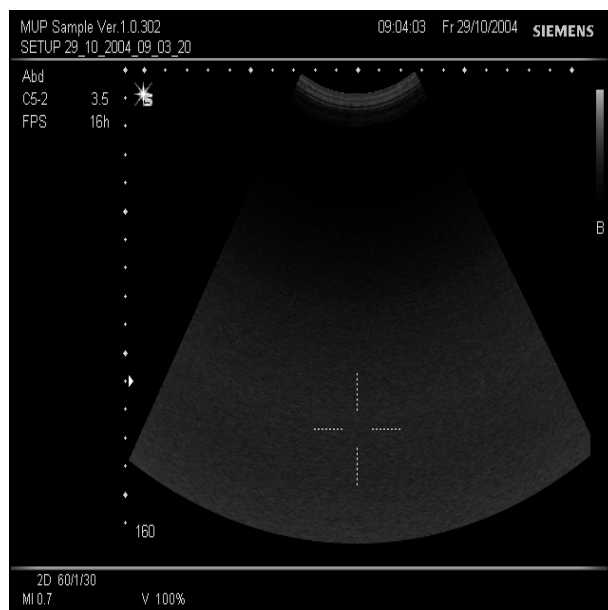

Fig. 1
- After adjusting the mount for the ultrasound probe, attach it on the mount (7/Fig. 1).
- A cross (Fig. 1) is displayed when a probe is selected.